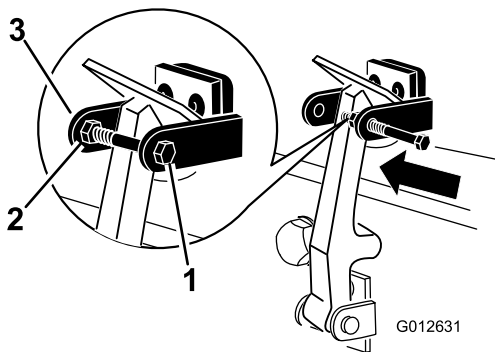

Figure 9
7. Screw the bolt into the other arm of hood lock bracket to lock the latch in position (Figure 9). Tighten bolt securely but do not tighten nut.